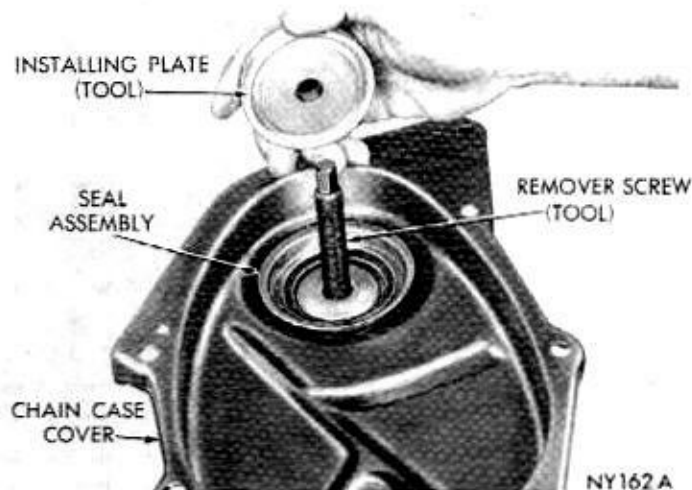

Fig. 23—Positioning Installer Plate
(7) Place the seal in cover opening, with neoprene down. Place seal installing plate into the new seal, with the protective recess toward lip of seal retainer (Fig. 23).